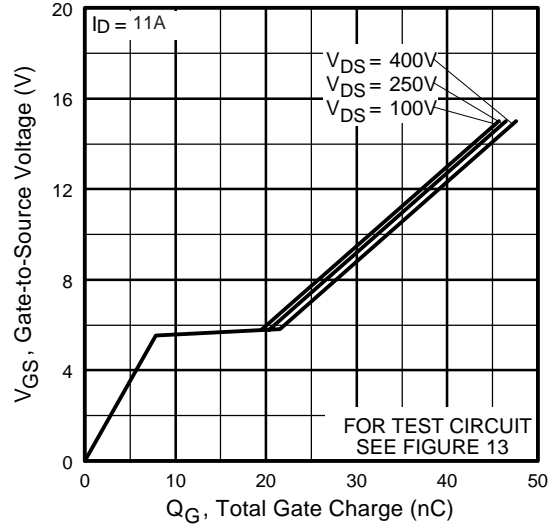

Fig 6. Typical Gate Charge Vs. Gate-to-Source Voltage
| Q_{gd} | Gate-to-Drain ("Miller") Charge | — | — | 18 | | $V_{GS} = 10V$, See Fig. 6 and 13 ④⑥ |